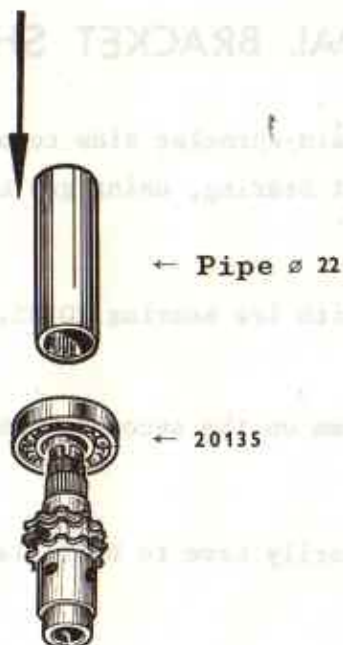

Fig. 16
- . Remount bearing 20135 (20 x 42 x 8) on the chain sprocket side of the secondary shaft using a 22 dia. pipe, 110 mm long. See Fig. 16.